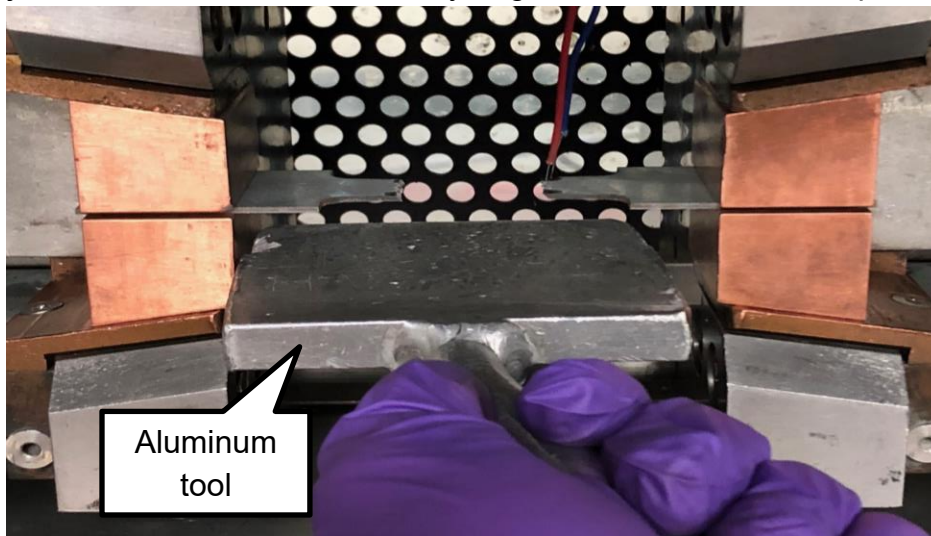

Figure 31. Aluminum tool for sample removal from Gleeble jaws
- 34) Place the aluminum tool between the two sample mounts as seen in Figure 31. Adjust the stroke dial as necessary to get the aluminum tool in place.